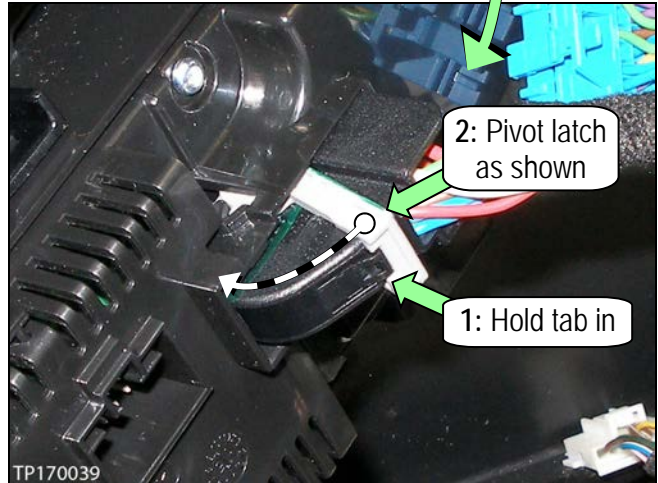

Figure 7
- The electrical connector shown in Figure 7 disconnects similar to an ECM connector.